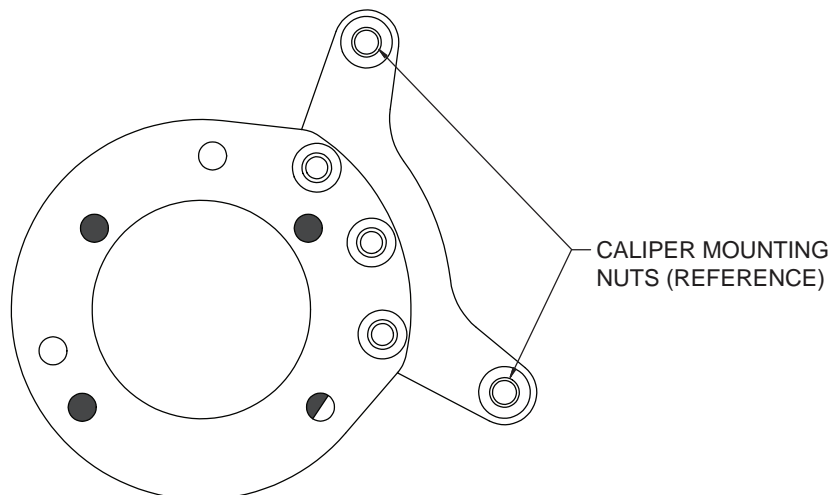
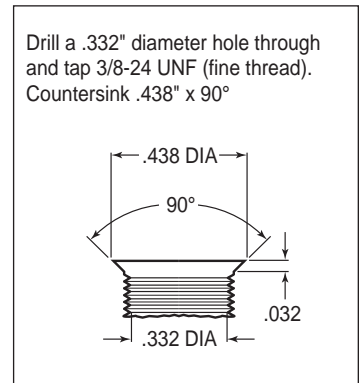
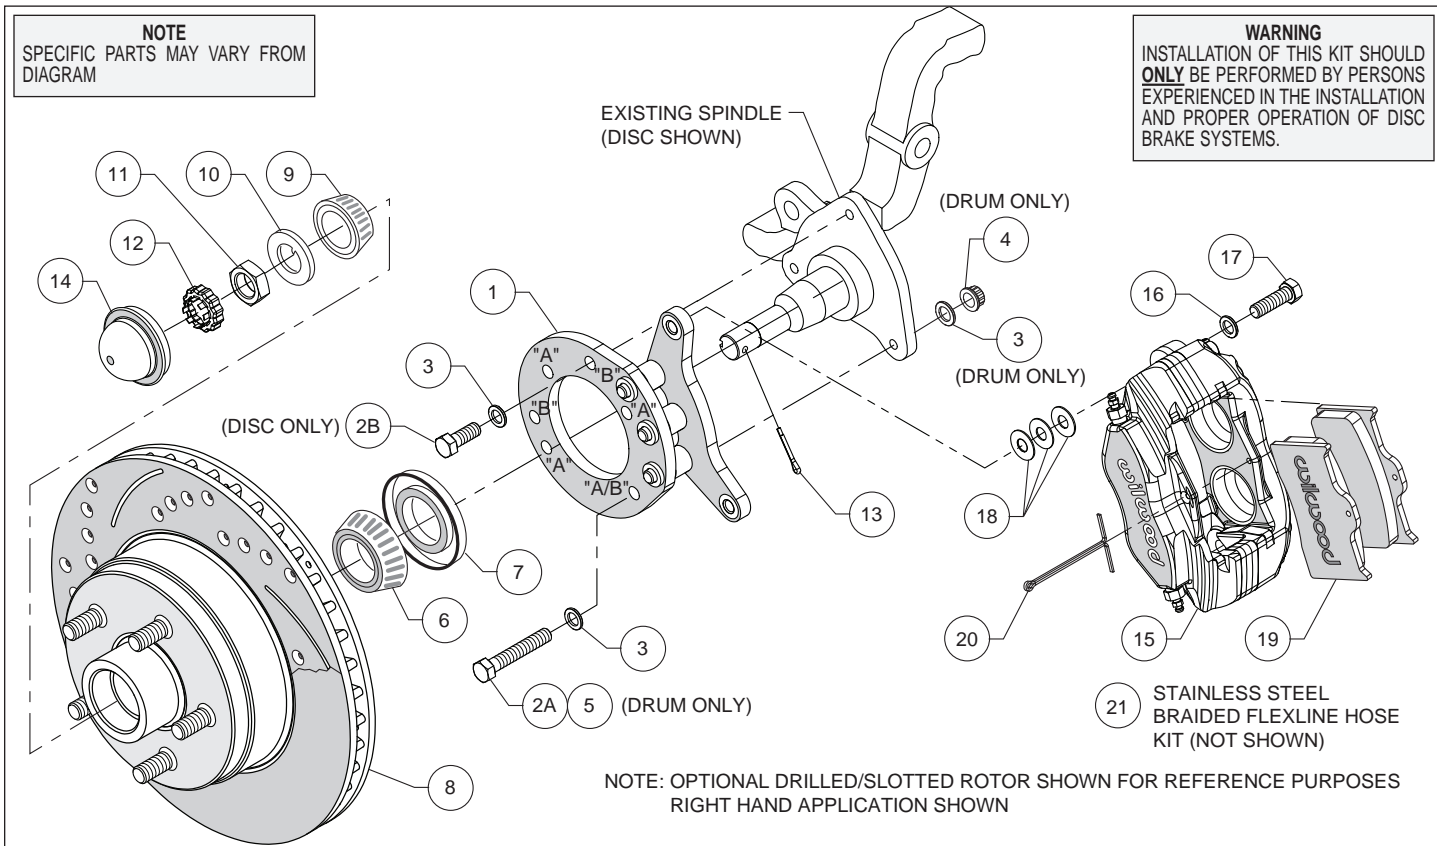
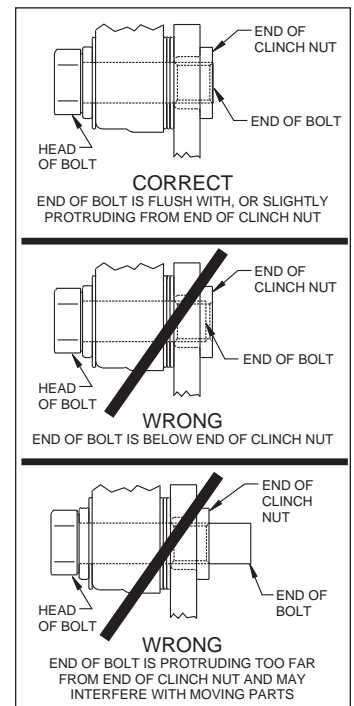

Figure 1. Wilwood Caliper Mounting Bracket
Figure 2. Drill and Tap Detail
Figure 4. Typical Installation Configuration
Figure 5. Clinch Nut Engagement Diagram
This kit has been designed for use with both the disc brake or the drum brake configuration of vehicle. The only difference is in how the Wilwood caliper mounting bracket is installed. The same bracket is used for both configurations; the disc brake version utilizes three mounting holes while the drum brake application uses four mounting holes (see Figure 1). For your convenience we have supplied bolt kits for both applications (see parts list and Figure 4 as necessary). Use the bolt kit that is applicable to your vehicle and disregard the other one.
NOTE: This modification should be performed by a qualified machinist and completed before assembly of the Wilwood disc brake kit begins. Using the caliper mounting bracket as a template (refer to Figure 1 as necessary), locate and verify the three original holes on the spindle that need to be modified. Drill a .332" diameter hole through all three holes, then tap 3/8-24 UNF (fine thread). Countersink the holes to .438" diameter x 90°, as shown in Figure 2.
Assembly Instructions (numbers in parenthesis refer to the parts list, and Figure 4): **CAUTION:** All mounting bolts must fully engage clinch nuts. Be sure to check that all bolts are either flush or protruding through flanged side of clinch nut after shimming, Figure 5.
•**NOTE:** This kit uses the same mounting bracket (1) for both the drum and disc brake spindles. The drum version, Photo 1, uses four mounting bolts (designated "A"), while the disc version, Photo 2, uses three (designated "B"). Refer to Figures 1 and 4 for the basic installation position of the bracket and the "A" and "B" reference designations (not physically marked on the brackets).
For Drum Spindle: Align bracket, using the four "A" holes, to the face of the spindle and attach using bolts (2A and 5), washers (3), and lock nuts (4), as shown in Figure 4 and Photo 1. Ensure that the flanged heads of the clinch nuts in the bracket are facing outboard. Torque nuts to 30 ft-lb.
For Disc Spindle: Align bracket, using the three "B" holes, to the face of the spindle and attach using bolts (2B) and washers (3), as shown in Figure 4 and Photo 2. Finger tighten. Ensure that the flanged heads of the clinch nuts in the bracket are facing outboard. Remove bolts one at a time, apply red *Loctite*® 271 to threads, and torque to 40 ft-lb.
•Pack the large inner bearing cone (6) with high temperature disc brake bearing grease (available from your local auto parts store) and install into the backside of the hub (8), Photo 3.
•Install the grease seal (7) by pressing into the backside of the hub (8), flush with the end of the hub.
•Pack the small outer bearing cone (9) with high temperature disc brake bearing grease and install into the front side of the hub (8). Slide the hub/rotor onto the spindle. Secure using spindle washer (10) and spindle nut (11). Adjust bearings per OEM specifications. Install spindle nut retainer (12) and a new cotter pin (13), Photo 4.
•Press the dust cap (14) into hub (8), Photo 5.
•**NOTE:** Please reference the caution statement at the beginning of the assembly instructions. Mount the caliper (15) onto the caliper mounting bracket (1) using bolts (17) and washers (16), as shown in Figure 4. Initially place three .035" thick shims (18) on each bolt between the caliper and the bracket, Photo 6. Temporarily tighten the mounting bolts and view the rotor (8) through the top opening of the caliper. The rotor should be centered in the caliper, Photo 7. If not, adjust by adding or subtracting shims between the bracket and the caliper. Always use the same amount of shims on each of the two mounting bolts. **NOTE:** The end of each bolt must be flush with or slightly protruding from the head of the clinch nut, as shown in Figure 5. If necessary place spare shims between washer (16) and caliper mounting ear to achieve the proper clinch nut engagement. Once the caliper alignment and clinch nut engagement are correct, remove the bolts one at a time, apply red *Loctite*® 271 to bolt threads, and torque to 40 ft-lb.